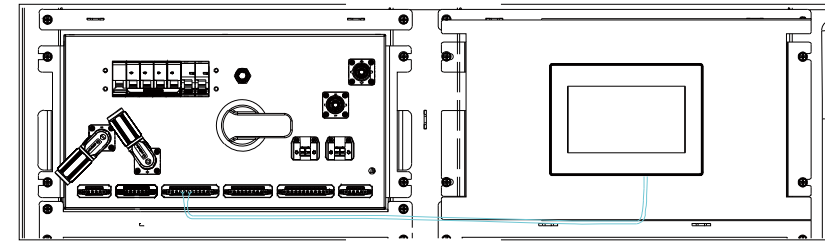

Figure 2.8
(5) Connect the 485-A2/482-B2 on COM3 to the communication interface of the HMI, and connect the HMIV + and HMIV- on COM3 to the 24V interface on the HMI. (Figure 2.8).